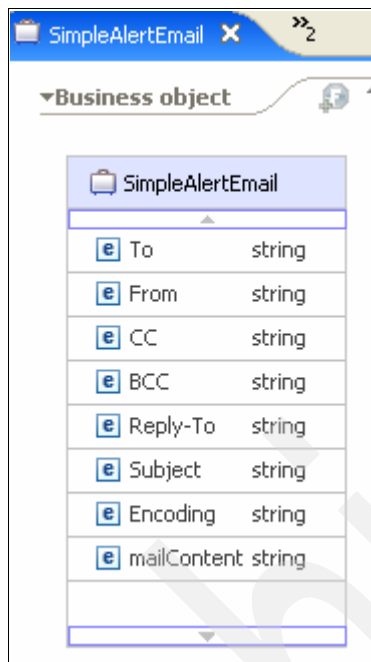

Figure 3-225 SimpleAlertEmail business object
6. To see the business object that the adapter uses to send e-mail, expand **EmailOutbound** → **Data Types** → **Common Schemas**. Double-click **SimpleAlertEmail** (Figure 3-225).